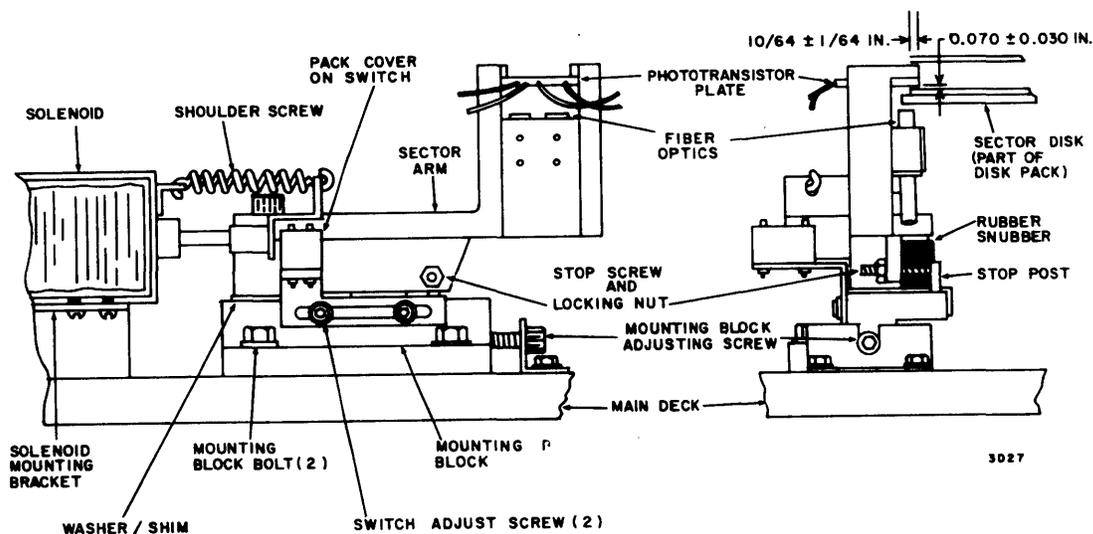

Figure 6-10. Sector Radial Adjustment
7. Using a plastic feeler gage, check the  $0.070 \pm 0.030$  inch clearance (Figure 6-10).
8. If the requirement is not met, remove the shoulder screw (Figure 6-10) and add shims (p/n according to Illustrated Parts List) between the top of the mounting block and the washer.
11. Using a 6-inch scale, check the  $10/64 \pm 1/64$ -inch clearance (Figure 6-10).
14. Move the sector photocell toward the disk pack until the stop post is encountered (Figure 6-10). At this position the solenoid armature should be bottomed out. If this requirement is not met, loosen the screws in the solenoid mounting bracket and reposition the solenoid.
15. Position the sector arm against the stop post. At this position the pack cover on switch should be actuated by the sector arm (Figure 6-10). The sector arm must not touch the body of the switch. If this condition is not met, loosen the two screws securing the switch mounting bracket and reposition the switch.
33. Select one of the heads. Loosen the two bolts securing the sector/presector photocell mounting block to the disk drive main deck (Figure 6-10). Turn the mounting block adjusting screw under the solenoid arm clockwise to decrease or counterclockwise to increase the period. Stop adjusting when the period of the selected head has been changed by the amount and in the direction determined in step 32.